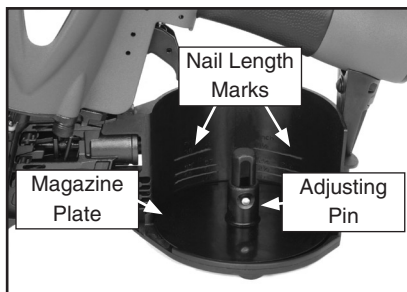

Figure 4. Positioning the magazine plate.
3. Press the adjusting pin inside the magazine and slide the plate up or down until the plate position matches the nail length as shown in **Figure 4**.